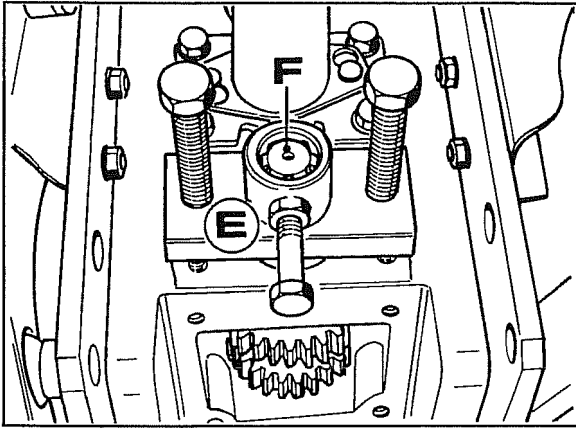

Fig. 3
4. Engage the synchronised PTO with the lever next to the handbrake and, using special tool **E** Fig. 3, extract synchronised PTO shaft **F**.